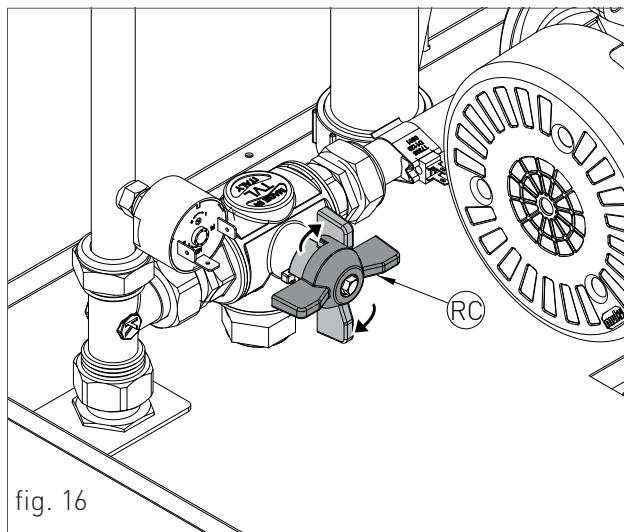

fig. 16
- › Check that the three-way valve is turned to the "recirculation" position, as shown in Figure 16 as 'RC';